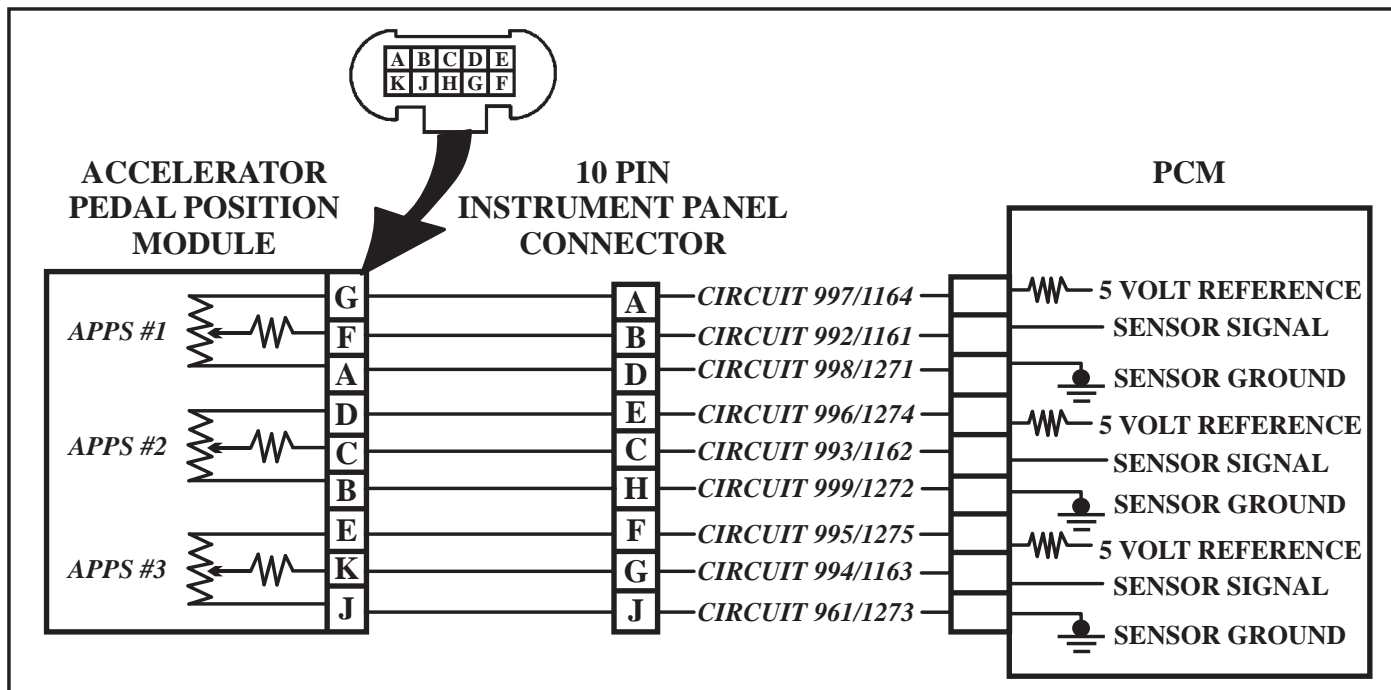

Figure 67
- The APPS Module contains three individual TP sensors. Contained inside the module are three 5 volt reference voltage circuits, three individual signal circuits and three individual ground circuits, (Refer to Figure 67).
- The APP Sensor #1 Ground Circuit 998/1271 is faulty, (Refer to Figure 67).
- The APP Sensor #1 Five Volt Reference Circuit 997/1164 is shorted to system voltage, (Refer to Figure 67).
- The APP Sensor #1 Signal wire Circuit 992/1161 is shorted to power, (Refer to Figure 67).
- The APP Sensor #1 Signal wire Circuit 992/P01161 is open or shorted to ground,(Refer to Figure 67).
- The APP Sensor #1 Five Volt Reference Circuit 997/1164 has less than 5 volts, (Refer to Figure 67).
- The APP Sensor #1 Five Volt Circuit 997/1164 is open or shorted, (Refer to Figure 67).
- The APP Sensor #1 Ground Circuit 998/1271 is open, (Refer to Figure 67).
- The APP Sensor #2 Ground Circuit 999/1272 is faulty, (Refer to Figure 67).
- The APP Sensor #2 Five Volt Reference Circuit 996/1274 is shorted to system voltage, (Refer to Figure 67).
- The APP Sensor #2 Signal wire Circuit 993/1162 is shorted to power, (Refer to Figure 67).
- The APP Sensor #2 Five Volt Reference Circuit 996/1274 has less than 5 volts, (Refer to Figure 67).
- The APP Sensor signal Circuit 993/1162 is open or shorted to ground, (Refer to Figure 67).
- The APP Sensor #2 Five Volt Circuit 996/1224 is open or shorted, (Refer to Figure 67).
- The APP Sensor #2 Signal Circuit 993/1162 is faulty, (Refer to figure 67).
- The APP Sensor #2 Ground Circuit 999/1272 is open, (Refer to Figure 67).
- The APP Sensor #3 Ground Circuit 961/1273 is faulty, (Refer to Figure 67).
- The APP Sensor #3 Signal wire Circuit 994/1163 is shorted to power, (Refer to Figure 67).
- The APP Sensor #3 Five Volt Reference Circuit 995/1275 is shorted to power, (Refer to Figure 67).
- The APP Sensor #3 Five Volt Reference Circuit 995/1275 has less than 5 volts, (Refer to Figure 67).
- The APP Sensor #3 Signal wire Circuit 994/1163 is open or shorted to ground, (Refer to Figure 67).
- The APP Sensor #3 Five Volt Circuit 995/1275 is open or shorted, (Refer to Figure 67).
- The APP Sensor #3 Signal wire Circuit 994/1163 is faulty, (Refer to Figure 67).
- The APP Sensor #3 Ground Circuit 961/1273 is open, (Refer to Figure 67).
- The APP Sensor #3 Five Volt Circuit 996/1274 is open or shorted, (Refer to Figure 67).